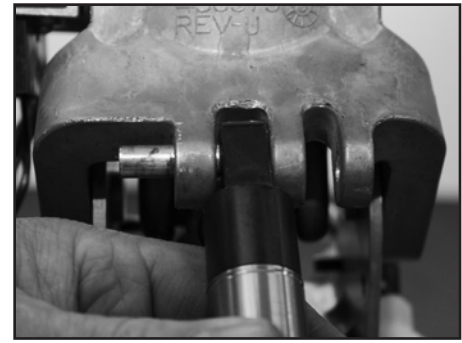

Figure 4
6. Align new actuator (P/N 410028) at top pivot pin hole. **Figure 4**